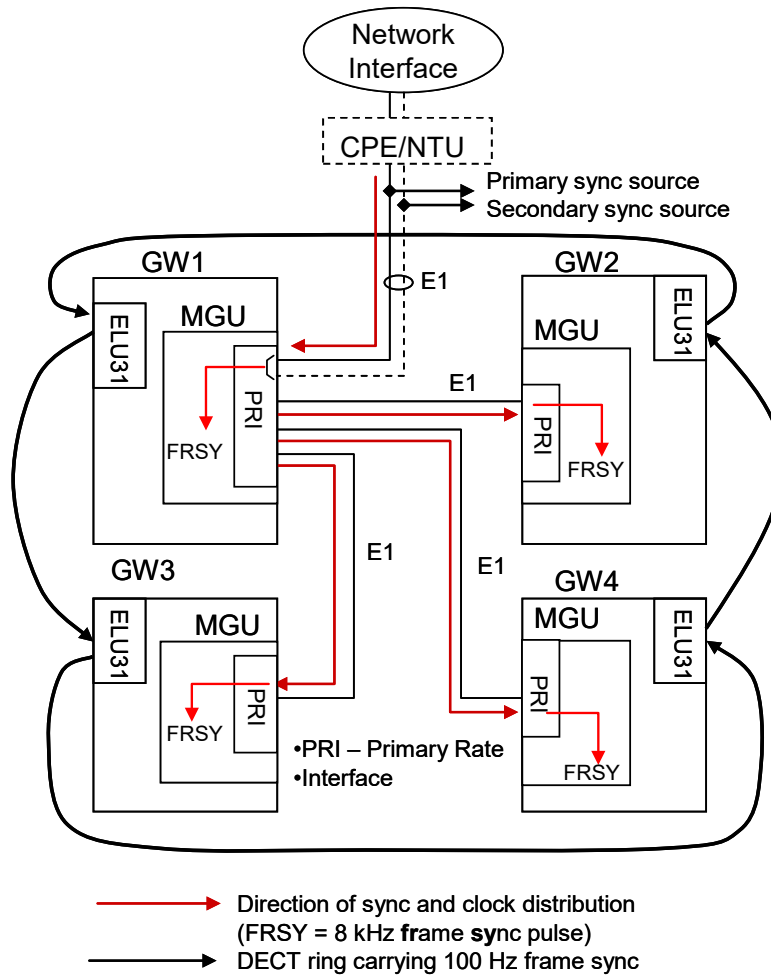

Figure 2
- In figure 2 the GW1 is connected to the reference timing (via CPE/NTU if used) and receives the network timing. The other GWs (2 – 4) get system synch from MGW 1 via E1 tie-lines. (Each MGU has 4 or 8 E1 ports, except the MGU2-X that has no E1 ports).